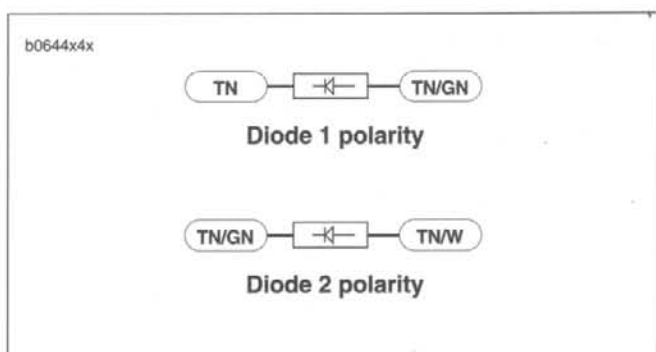

Figure 7-6. Diode Polarity
2. Check diode polarity as shown in Figure 7-6.